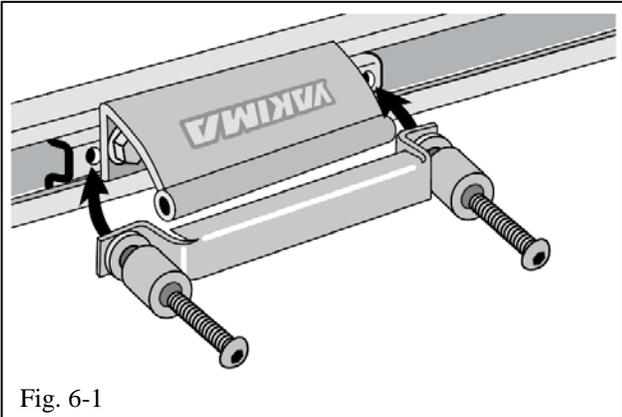

Fig. 6-1
- (a) Insert the theft deterrent bolts, fiber washer and bushings (Fig. 6-1).